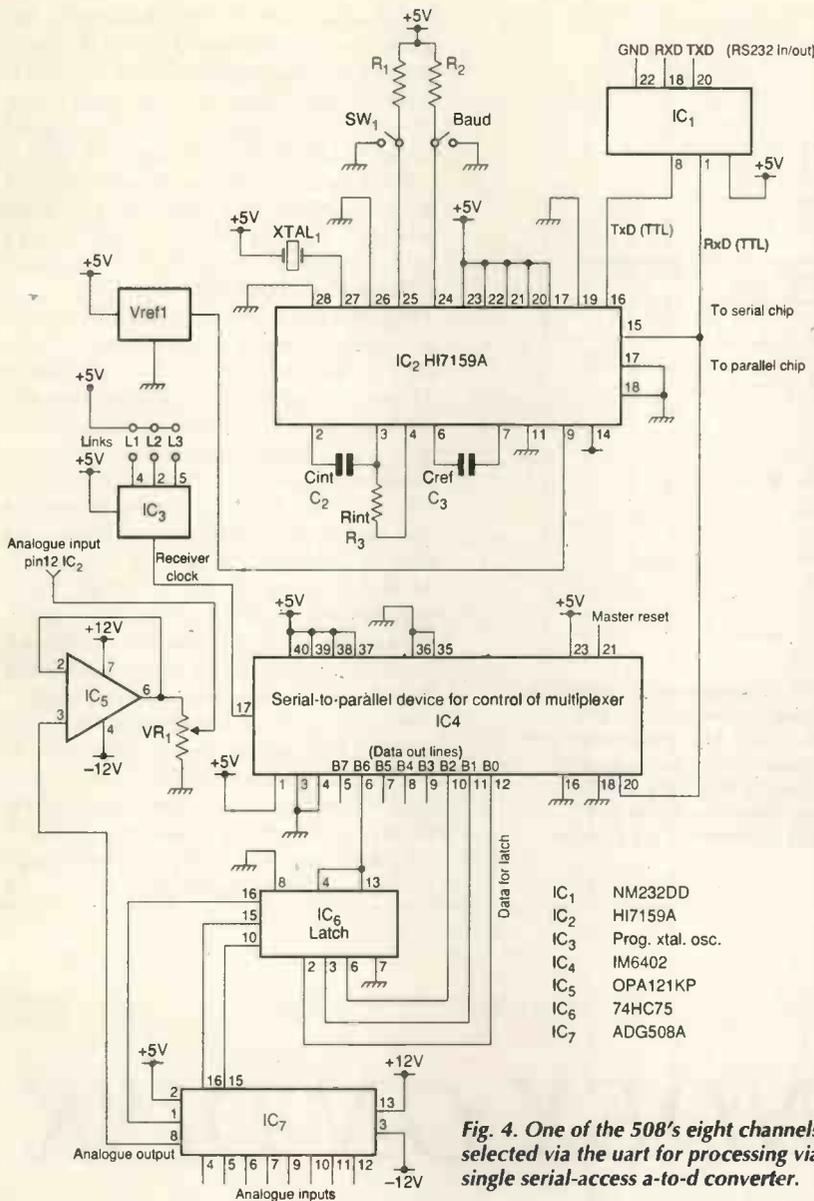

Fig. 4. One of the 508's eight channels is selected via the uart for processing via the single serial-access a-to-d converter.
A latch as in Fig. 4 may be added to free the control line for other functions. Switch S₁ selects the bit rate of the 7159. Voltage V_{ref1} is derived from standard 1.2V reference diode. Master reset on the uart is normally low but can be reset high on power up if required. At the output of op-amp IC₅, potentiometer VR₁ scales the 7159 input voltage to ±2V. Programmable crystal oscillator IC₃ has its bit rate set by links L_{1,3} as indicated in Table 4 in order to drive the receive clock at 16 times the bit rate.